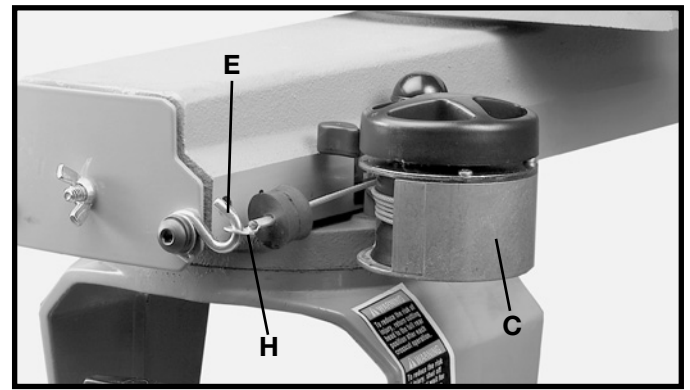

Fig. 30
4. Attach eyelet (H) Fig. 30 of cable assembly (C) to "S" bracket (E).